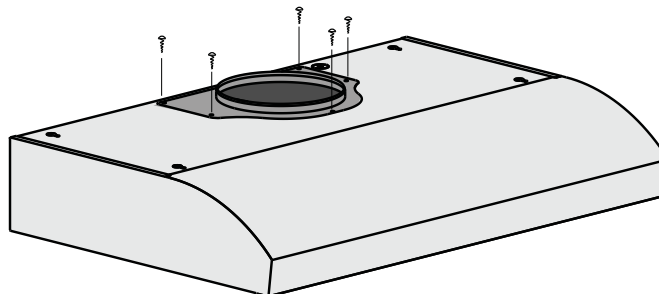

Figure 7
- Then put the round vent kit to the top and fixed by screws, position round damper on top of the unit and set in place with screws provided (Figure 7).